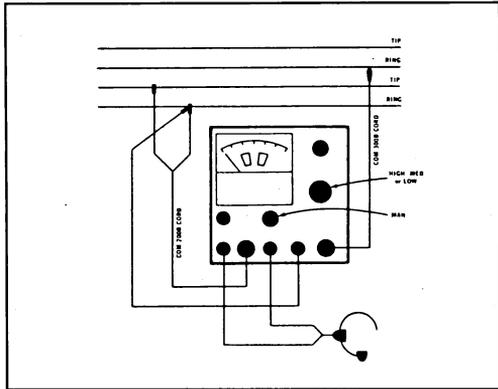

FIGURE 13
3.06 A special cord connection may be desirable when tagging very short cable or in unusual cases where the tone is exceptionally hard to hear. In Figure 13, an acceptable mode of operation is shown, although the automatic tone cut-off feature cannot be used since the switch must be in the MAN position.